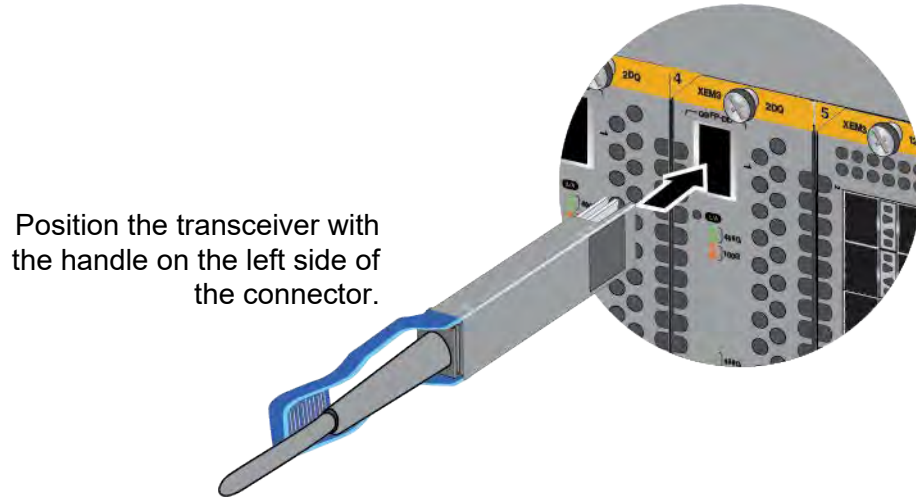

Figure 55. Installing AT-QSFPDD-1CU and AT-QSFPDD-2.5CU Cables in the XEM3-2DQ Module
- ❑ XEM3-2DQ Module with AT-QSFPDD-1CU and AT-QSFPDD-2.5CU cables: For both ports, position the transceiver with the handle on the left side. Slide the transceiver into the slot until it clicks into place. Refer to Figure 55.